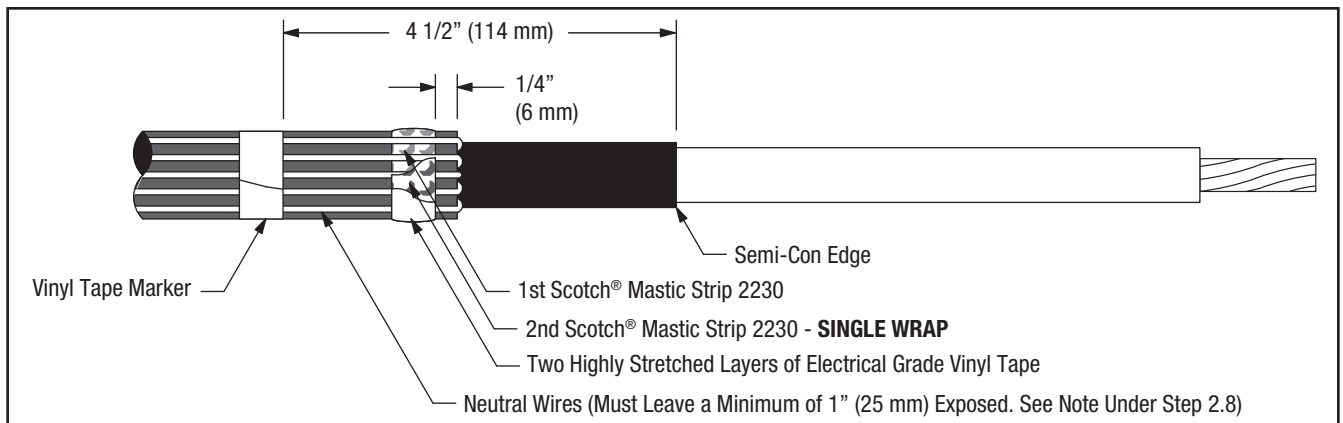

Figure 3
- 2.6 Bend neutral wires back over applied sealing mastic and secure to cable jacket 4 1/2" (114 mm) from cable semi-con edge using vinyl tape (see NOTE and Figure 3).
- 2.7 Select second Scotch® Mastic Strip 2230 from kit and remove white release liners. Apply a second **SINGLE WRAP** of mastic over the neutral wires and previously applied mastic (Figure 3). Cut off excess.
- 2.8 Compress neutral wires into mastic by over-wrapping seal strips with two highly stretched layers of electrical grade vinyl tape (Figure 3). **Be sure to cover all exposed mastic.**